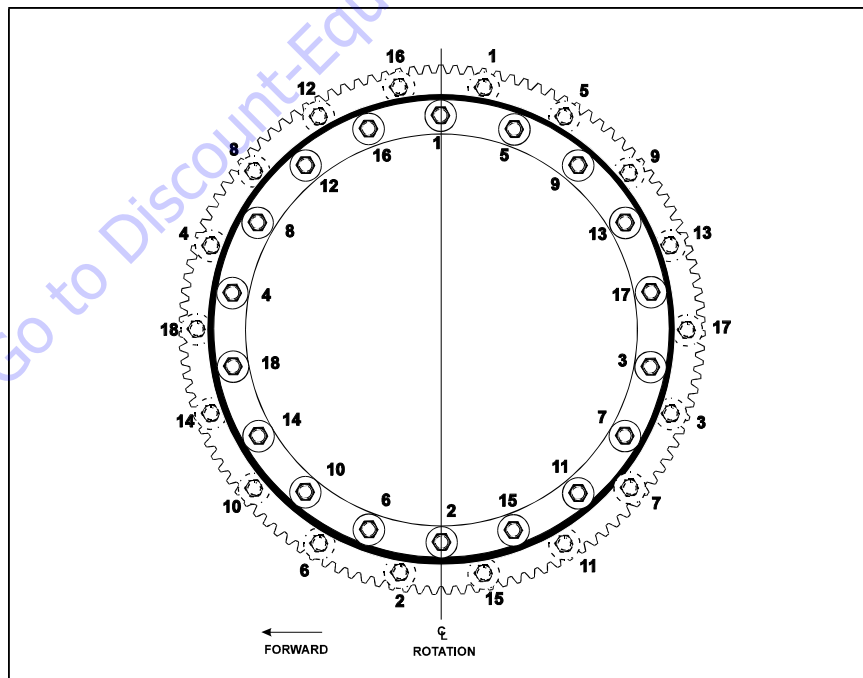

Figure 3-7. Swing Bearing Torque Sequence
- c. Refer to the Torque Sequence diagram as shown in Figure 3-7., Swing Bearing Torque Sequence. Spray a light coat of Safety Solvent 13 on the new bearing bolts. Then apply a light coating of Loctite #271 to the new bearing bolts, and install the bolts and washers through the frame and outer race of the bearing. Tighten the bolts to an initial torque of 240 FT. LBS. (326 Nm) w/Loctite.
- h. Following the Torque Sequence diagram shown in Figure 3-7., Swing Bearing Torque Sequence, tighten the bolts to a torque of 240 ft. lbs. (326 Nm) w/Loctite.